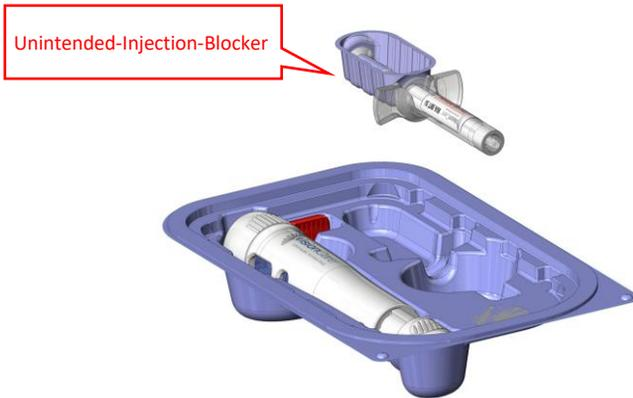

Figure 4
6. Leave the Unintended-Injection-Blocker fixed on the Injector (Figure 4). If any signs of damage or degradation are visible, use another device and return the damaged device to the manufacturer.